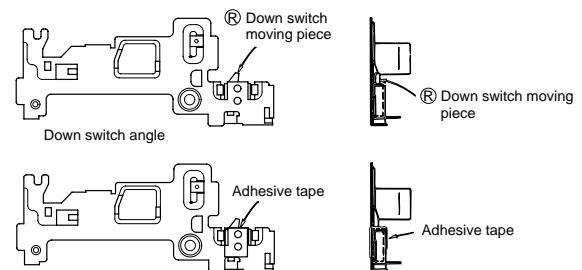

Fig. 6
- (3) Surely secure the moving piece **R** of down switch as shown in Fig. 6 with the aid of adhesive tape so that the switch is turned on.
- (4) Install the down switch angle.
- (5) Set the test mode (T-01) with the adjustment remote controller without loading the tape. Thereby the mechanism operation is enabled with the mode key.
- (6) To eject, remove the tape (3).